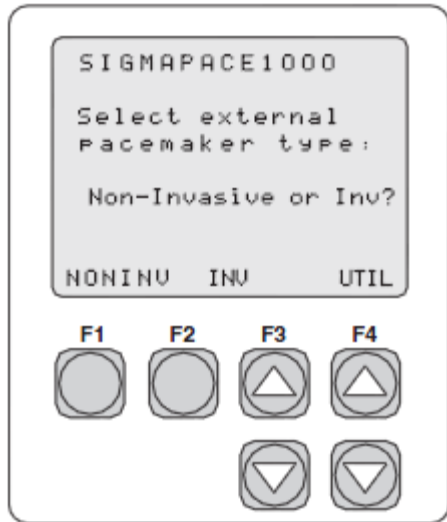

Figure 1
- Depress “F2” (INV) to select the “Invasive” category. Figure 1